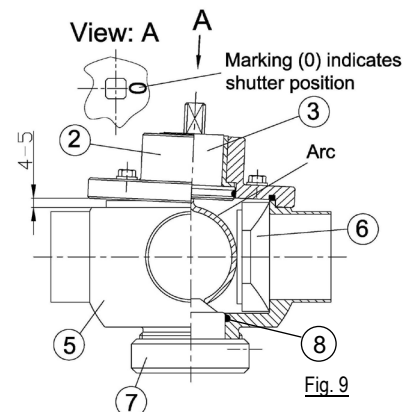

Fig. 9
2. Insert bearing bushing (9) into bearing cap (2).
3. Insert O-rings (4), (8) and (10).
4. Assemble pivoted axle with arc (3) and bearing cap (2). Pay attention to the marking (0) on the square pin of the pivoted axle (3) → indicates the shutter position (6) (see Figure 9).
5. Insert shutter (6) into valve casing (5).
6. Fit the pivoted axle with the arc (3) together with bearing cap (2) to the valve casing (5) as follows:
- a) The pivoted axle with arc (3) is designed that it exerts a defined pressure on the shutter (6) during assembly. On account of the prestress characteristics, the bearing cap (2) declines approx. 4-5mm off the valve casing (5) on the opposite side of the shutter (see Figure 9).
- c) Fasten the handle (1) in the desired position.